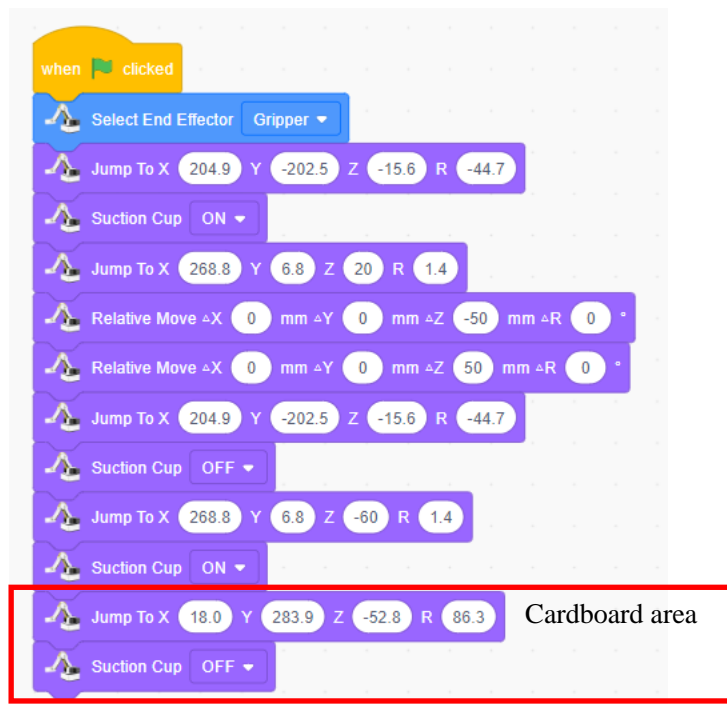

Figure 1.25 Releasing the certificate
Step 6: Place the paperboards. Move the robotic arm to the placement area and "release" the suction cup, as shown in Figure 1.25.